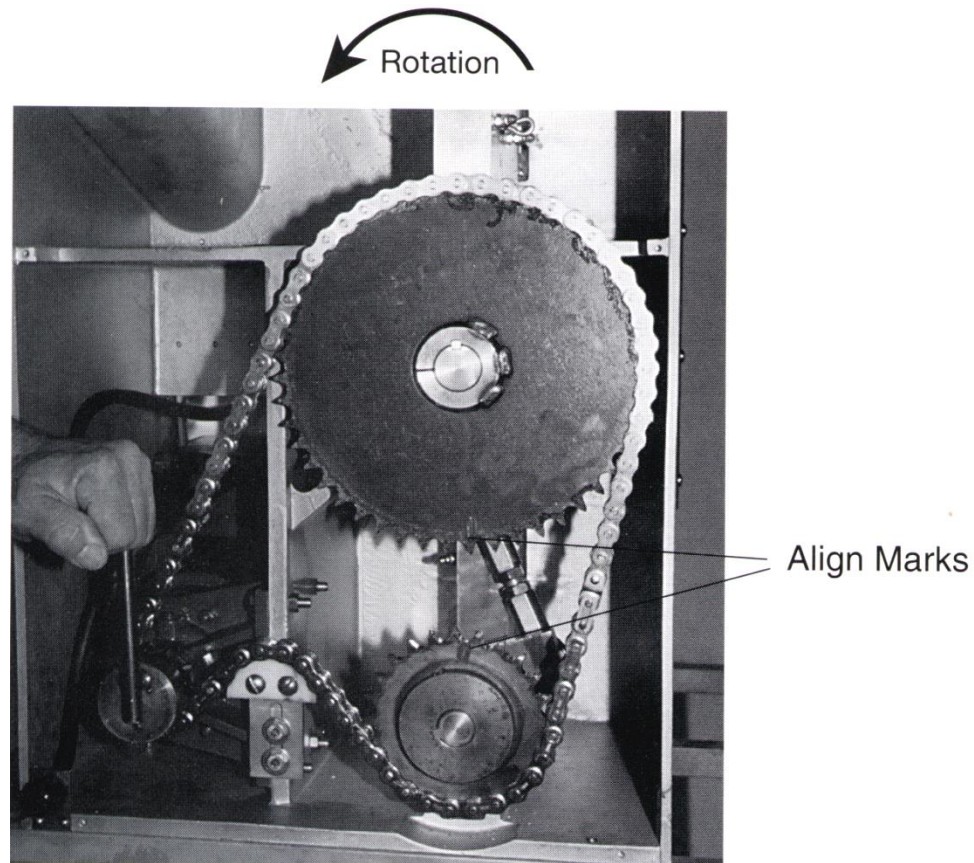

Figure 27. Align Timing Marks
17. **Before installing chain, align timing marks as shown. Refer to figure 27.**